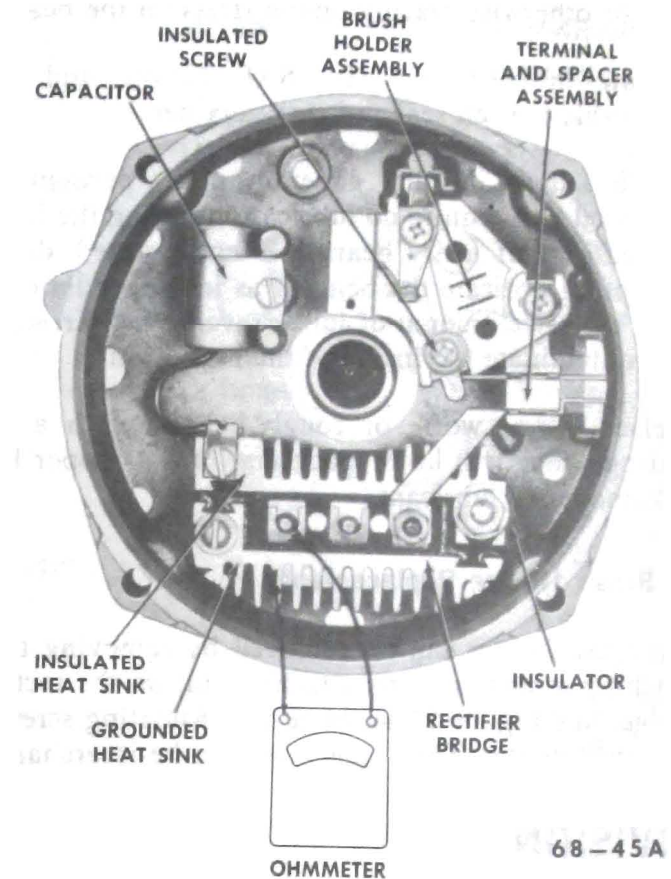

Figure 68-46 Rectifier Bridge Check
Note that the rectifier bridge has a grounded heat sink and an insulated heat sink connected to the output terminal. Also, note that insulator located between the insulated heat sink and end frame. See Figure 68-46.
1. Connect ohmmeter, using lowest scale to heat sink and metal clip (not threaded stud). Observe reading. See Figure 68-46.
The brush holder can be removed by removing three attaching screws and one attaching nut on the rectifier bridge. See Figure 68-46. Note the insulating screw in the brush holder. This screw must not be interchanged
Reassembly is the reverse of disassembly. See Figure 68-46 for connection of internal leads. Remember when assembling the pulley to secure the rotor in a vise only tight enough to permit tightening the shaft nut to 50-60 lb. ft. If excessive pressure is applied against the rotor, the assembly may become distorted.